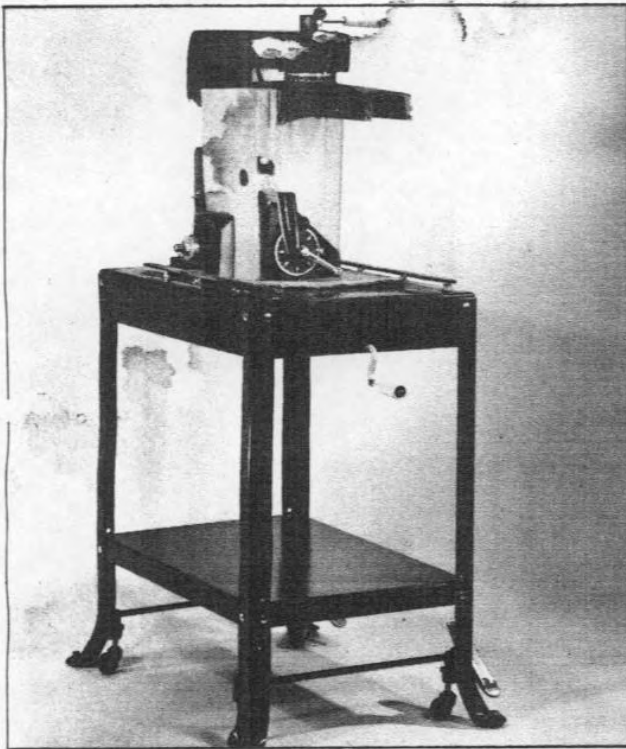

Fig. 6
6. Stand the machine straight up, as shown in Fig. 6, raise overarm and remove packing from around the motor.